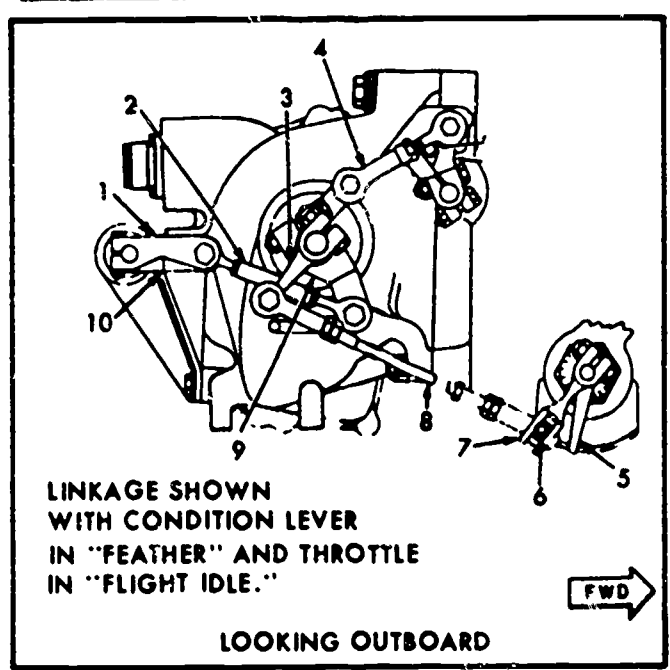

Figure 6. Engine Coordinator and Fuel Control.
be turned slightly so that the rig pin can be put in, provided the pulley will stay in the same place when the rig pin is removed. If the conditions of the previous steps are met, the condition control system from the control quadrant to the fireseal bracket is properly adjusted. Next, place the throttle in the FLIGHT IDLE position and move the condition lever to FEATHER. Check to see if the lever, figure 6 (1), is against the coordinator external feather stop (10).
2. Disconnect the rod assembly, figure 6 (2), from the coordinator condition lever (9). Move the lever (9) clockwise to the full UNFEATHER position. Disconnect the rod (8) from the throttle lever (7) and move the fuel control pointer (5) through its full range. End readings should be 0 degrees plus or minus 1/2 degree and 90 degrees plus or minus 1 degree.
3. Move the pointer (5) to 73.5 degrees. The throttle lever (7) should be vertical (45 degrees on the protractor). If necessary, adjust the micromatic adjustment screw until the throttle lever (7) is vertical. Use part no. 6796658, fuel control throttle lever position fixture. Set the length adjusting screw (6) at the center of its range. Adjust the